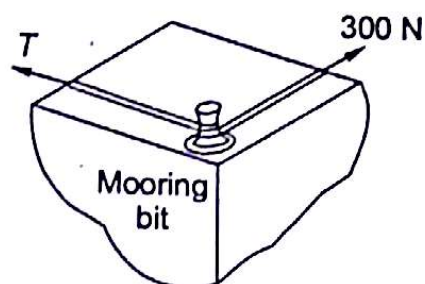

Fig. 7.8
7.1 A dock worker adjusts a spring line rope which keeps a ship from drifting alongside a wharf. If he exerts a pull of 300 N on the rope which has 1.25 turns around the mooring bit, how much force T can he support? The coefficient of friction between the rope and cast steel mooring bit is 0.30. Refer to Fig. 7.8].